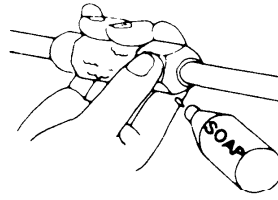

Fig. 10
- Check gas leakage of all joints with liquid soap. Fig. 10